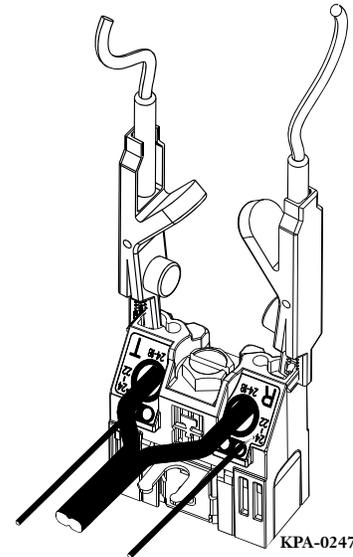

Figure 8
- Step 1** Connect to the telco test contacts (Figure 8).
- Step 1** Open cover by pushing the latch button and pulling the cover upwards (Figure 8 Inset).
- Step 2** Feed subscriber wires through the opening formed by the hinges and the end of the cover (Figure 8). Or the cover can be snapped off the hinges for easier wiring.